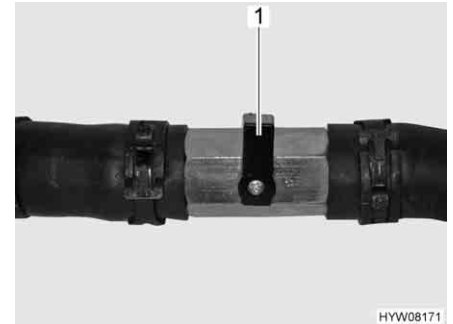

Fig. 199 Stopcock is closed
- Set the lever (Fig. 199,1) of the stopcock at right angles to the pipe.